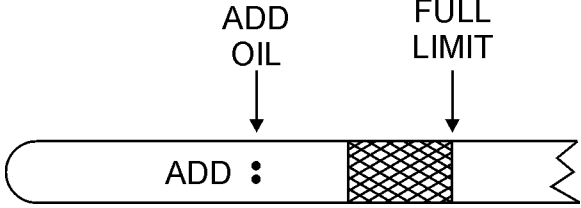

Figure 11. Dipstick
4. If the oil level is low, add oil through the oil filler hole, **DO NOT** overfill. Fill to the normal operating level as shown on the dipstick (Figure 28). Verify that the oil level is maintained between the two notches as shown in Figure 11. Always fill with recommended type oil as listed in Table 6. Reference Table 2 for engine oil capacity.